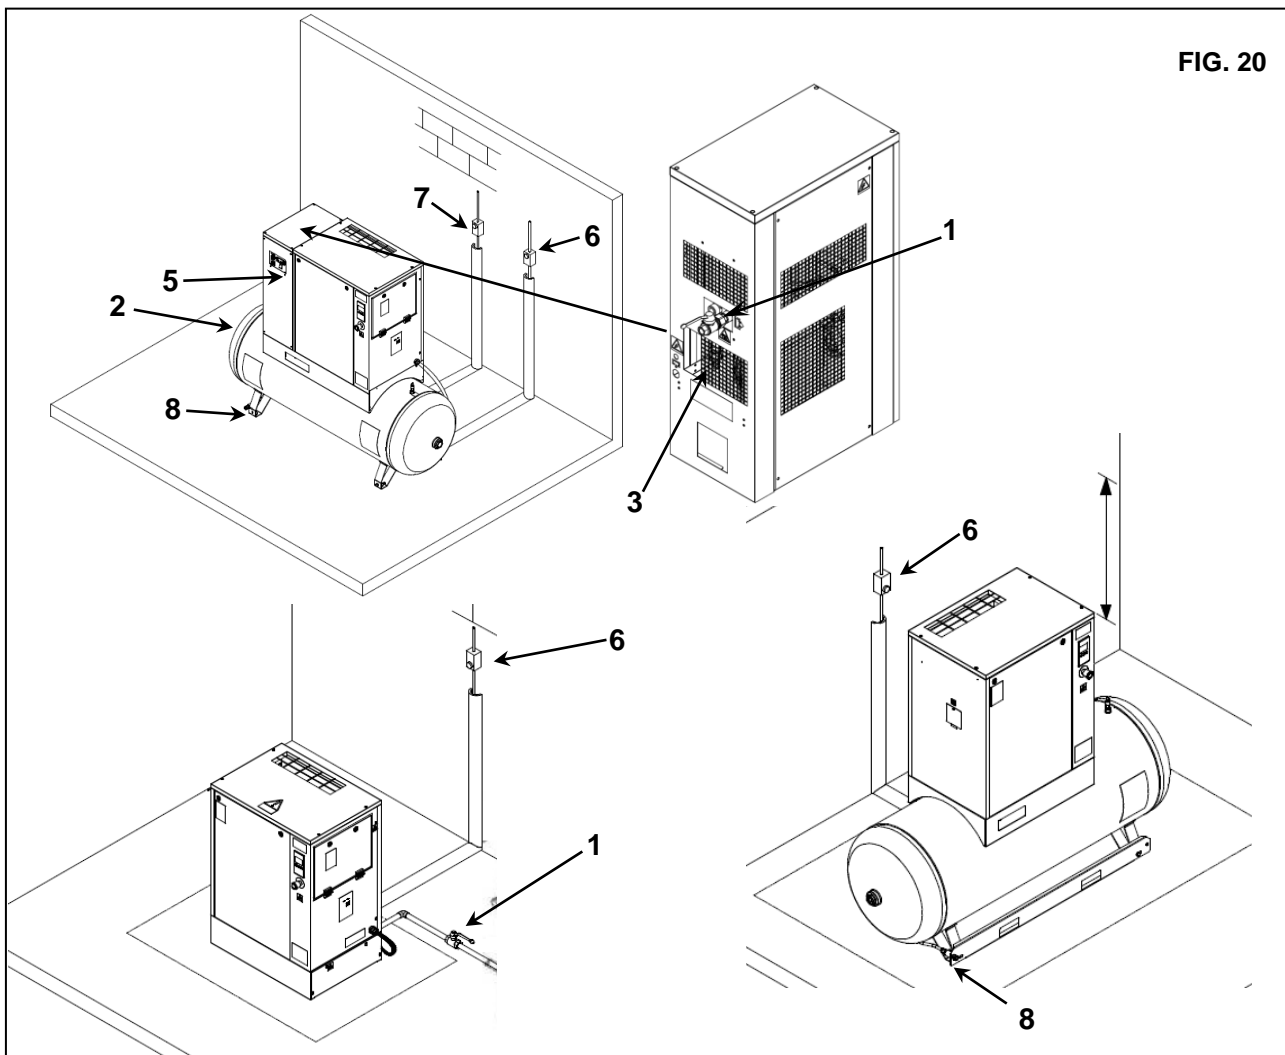

FIG. 20
- Close the tap Ref. 1 and Ref. 2 Fig. 20.
- Press the button switch Rif. 5 Fig. 20 (on the dryer if fitted)
- Turn off the differential supply switch, Ref. 6 (on the screw-compressor) and Ref. 7 (on the dryer if fitted) Fig. 20.
- Remove pressure from the dryer and tank by opening the condensation outlet valve Ref. 8 Fig. 20.
- Close the taps Rif. 8 Fig. 20 off again after discharging all the residual air pressure.